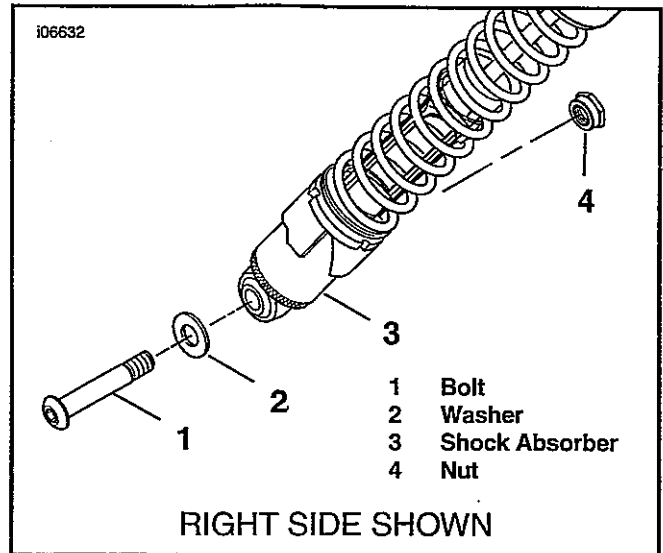

Figure 1. Rear Shock Absorber
3. See Figure 1. Disconnect the rear shock absorbers from the swing arm by removing bolt (1), washer (2) and nut (4) from the shock absorber (3). Repeat on opposite side of the motorcycle.
28. See Service Parts Illustration (2 of 2). Remove the rear shock absorber bolt. Position the .531 x .75 x .25 inch spacer (13) and the front saddlebag bracket attachment hole over the rear shock absorber bolt location. Secure with the 1/2-13 x 3.75 inch screw (11).
29. See Service Parts Illustration (2 of 2). Position the .325 x .75 x .25 inch spacer (14) and the rear saddlebag attachment hole over the second hole on the rear of the fender, fender support cover, and relocation pad. From the underside of the fender, insert a 5/16-18 x 3.00 inch screw (12) and secure with locknut (16). Tighten to 24–27 ft-lbs (33–37 Nm).
30. Tighten the front screw (11) to 21–27 ft-lbs (28.5–38 Nm).
31. See Service Parts Illustration (2 of 2). Assemble an isolator washer (18) onto an isolator bushing (19). Place a screw (21) through the bushing.
33. See Service Parts Illustration (2 of 2). Push a saddlebag isolator (20) over bushing with cone shape toward saddlebag.
38. See Figure 1. Attach rear shock absorber to swingarm by installing bolt (1), washer (2) and nut (3). Tighten bolt to 45–50 ft-lbs (61.1–67.9 Nm). Repeat step on opposite side of motorcycle.